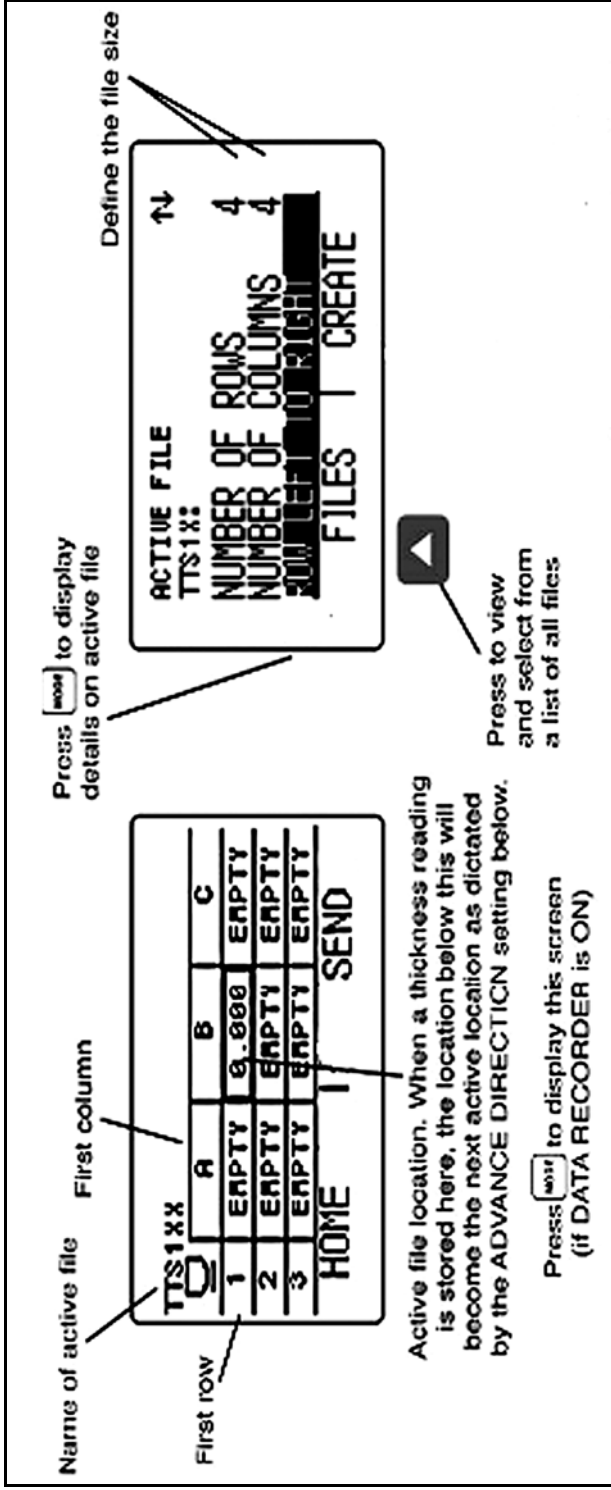

Figure 20: Defining the Size and Advance Direction of a Data Recorder File
- The numbers of ROWS and COLUMNS in the Data Recorder file (see *Figure 20 on page 48*).
- The ADVANCE DIRECTION (see *Figure 20 on page 48*).
The Data Recorder must be enabled (turned ON) via the CONFIGURATION display. Once the Data Recorder is turned on, the contents of the active Data Recorder file are displayed in the *File Navigation Grid* shown in *Figure 20 on page 48*.
When the Data Recorder is turned ON, the contents of the active Data Recorder file are displayed in the *File Navigation Grid* shown in *Figure 20 on page 48*. After the navigation grid is activated, , , , and  can be used to select any file position. A heavier grid box appears around the selected file position. Once a file position has been selected: